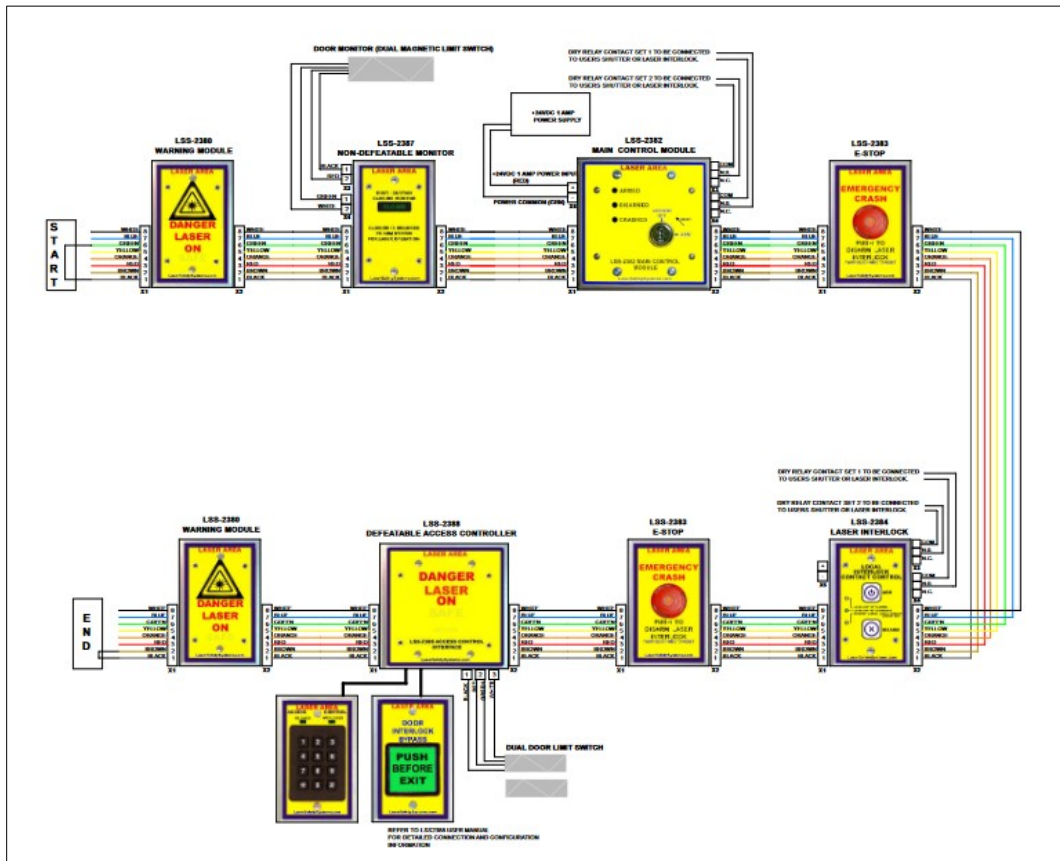

Figure 1: A system of medium complexity
Step 3: It should be evident from Figure 1 and 2 that the upper half of the system is now active. Recall that the start and end jumpers are simply wires, so if you have cut it in half by disconnecting the lower portion, you only need to jumper line 1 to 2 to check the upper half.